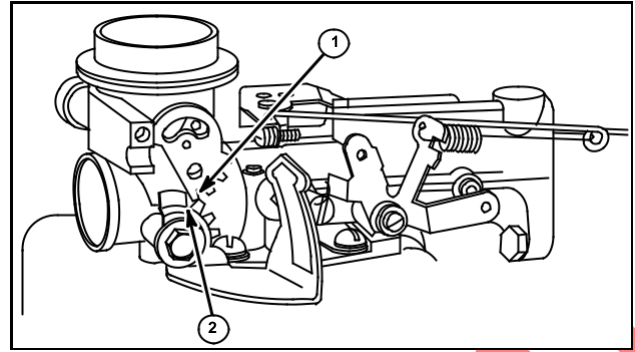

Fig. 82
Note: Bottom tooth of choke shaft (1) should engage top tooth on manual choke lever (2), Fig. 82.